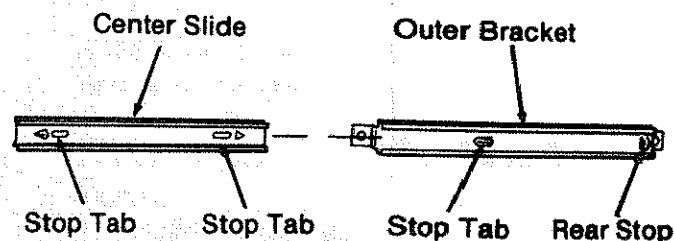

Fig. 22
1. Find the six *outer brackets* and six *center slides* that will be put together to form the *slide brackets*. (Figure 22)
3. Slide each *center slide* into an *outer bracket*. There are two notches on each *center slide* that stick out on opposite sides. Make sure that you insert the notch sticking out toward the *outer bracket* first. This notch should stop the *center slide* from sliding off the *outer bracket*. (Figure 22)